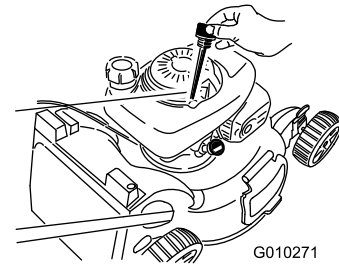

Figure 39
- Remove the dipstick from the oil-fill tube (Figure 39).